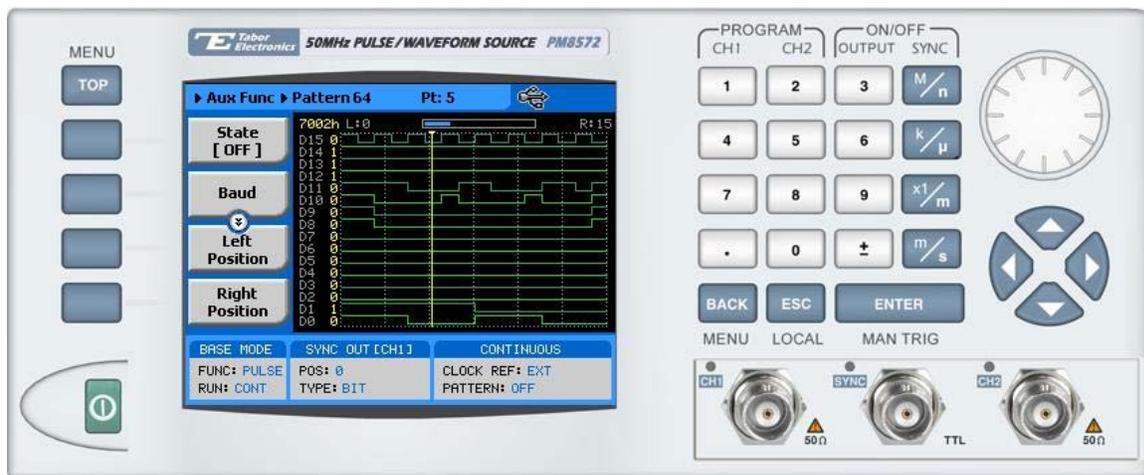

Figure 3-88, the Digital Pattern Menus
3. Press the Auxiliary Functions soft key and scroll down to highlight the Digital Pattern option, as shown in Figure 3-88.
4. Press the Enter button to select the digital pattern function. Figure 3-88 shows the digital pattern panel and its menus.